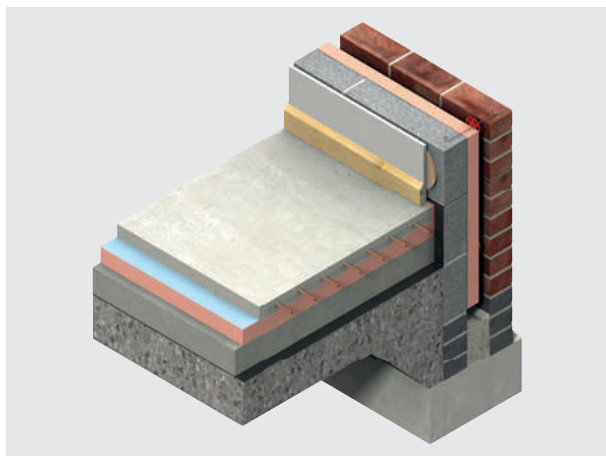
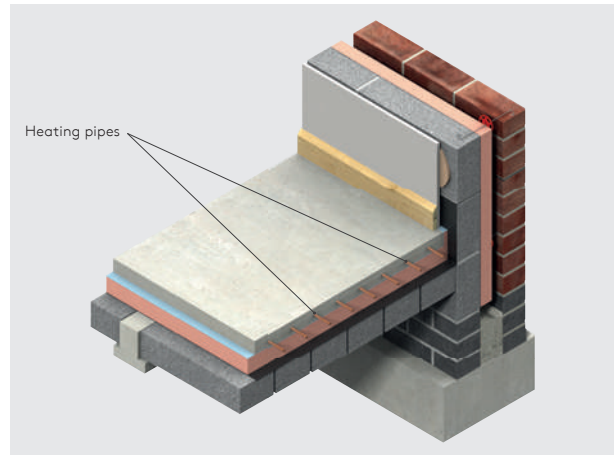

Figure 9: Intermittent Heating Applications - Below the Floor Screed
Figure 10: Intermittent Heating Applications - Beam and Block Floor
- In order to minimise cold bridging at the edge of the floor, the distance between the top surface of the floor insulation or perimeter insulation upstand, and the bottom of the wall insulation must be a minimum of 150 / 225* mm (see Figures 1 & 2) for a concrete floor and 200 mm for a suspended timber floor (see Figure 9). The further down the wall insulation extends past the floor insulation, the better the thermal performance of the junction between the wall and the floor.
For intermittent heating applications, where a fast response time is required, it is beneficial to have less thermal mass available to take up heat from the system and so placing the insulation layer below the screed but above the concrete slab (Figure 9) or beam and block floor (Figure 10) is the best solution.